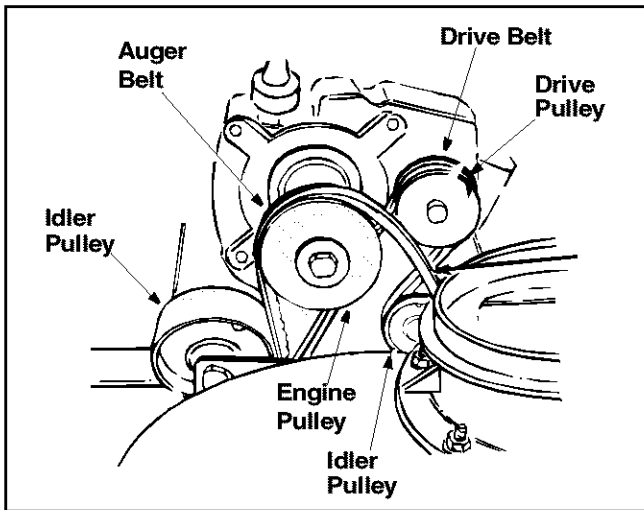

Figure 23
- Roll auger belt off the engine pulley. See Figure 23.
- Lift the rear auger belt from the auger pulley and slip belt between the support bracket and the auger pulley. Repeat this step to remove the front auger belt. See Figure 23.
- Pull idler pulley up, and lift belt off engine pulley and friction wheel disc. See Figure 23.